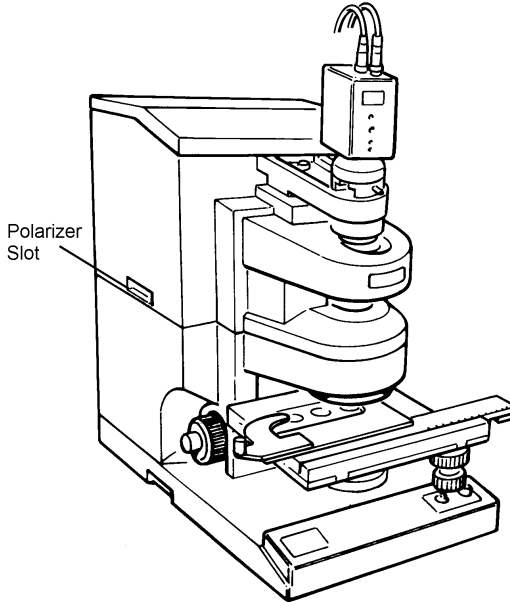

Figure 27 Polarizer Position
1. Insert the polarizer into the horizontal slot below the illuminator on the left of the microscope (Figure 27), with the angled corner facing towards the front of the microscope so that it pushes in the ball-bearing inside the slot. Push the polarizer fully in until it stops.